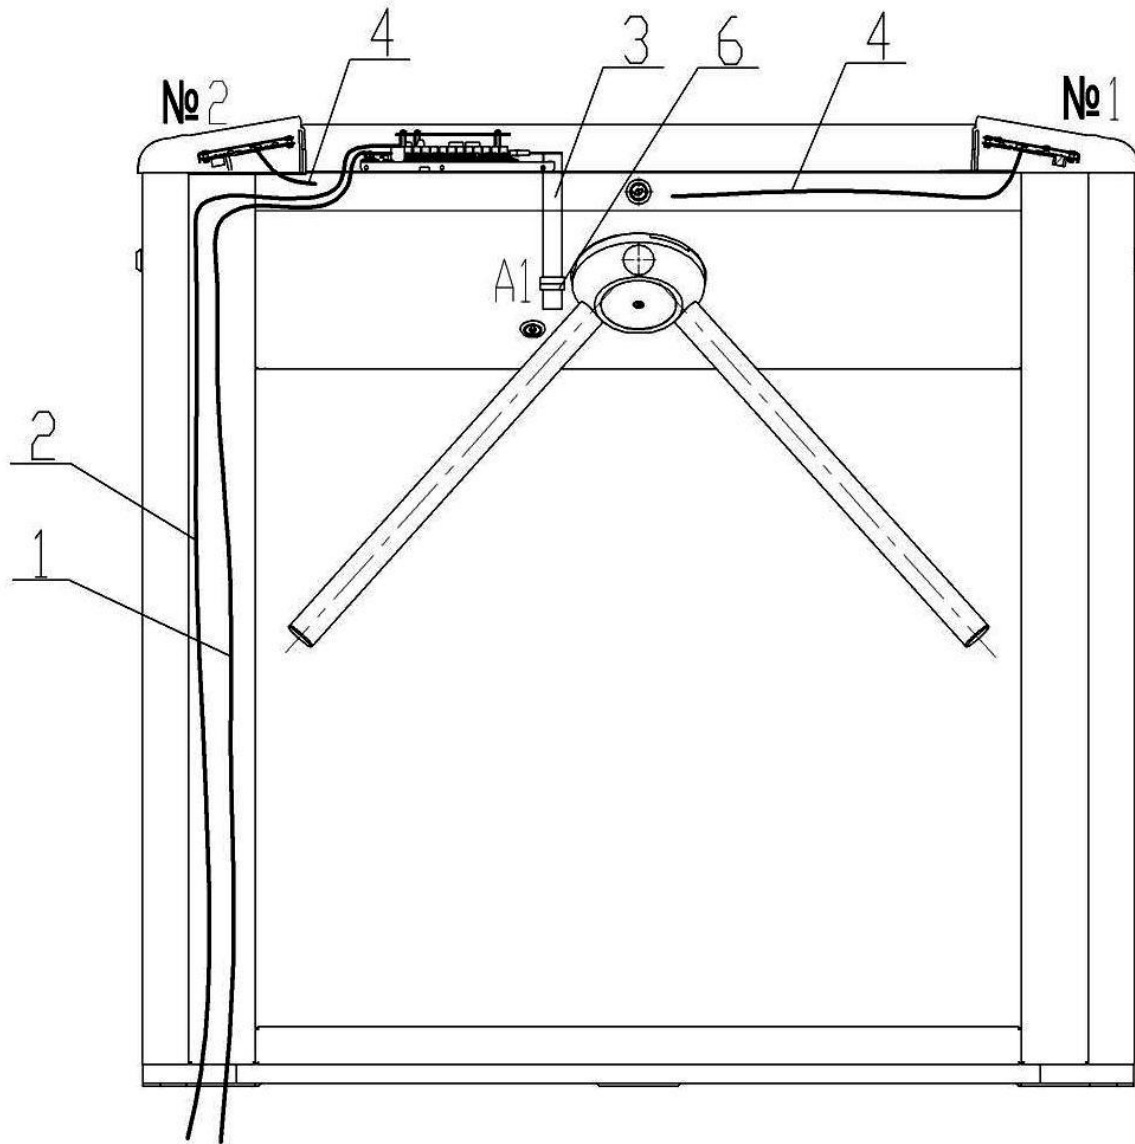

**Figure 7 – TB-01 turnstile housing installation layout**
- to mark the mounting holes according to Figure 7;
9.4.2 Make holes for anchor bolt sleeves for the turnstile housing installation (Fig. 7).